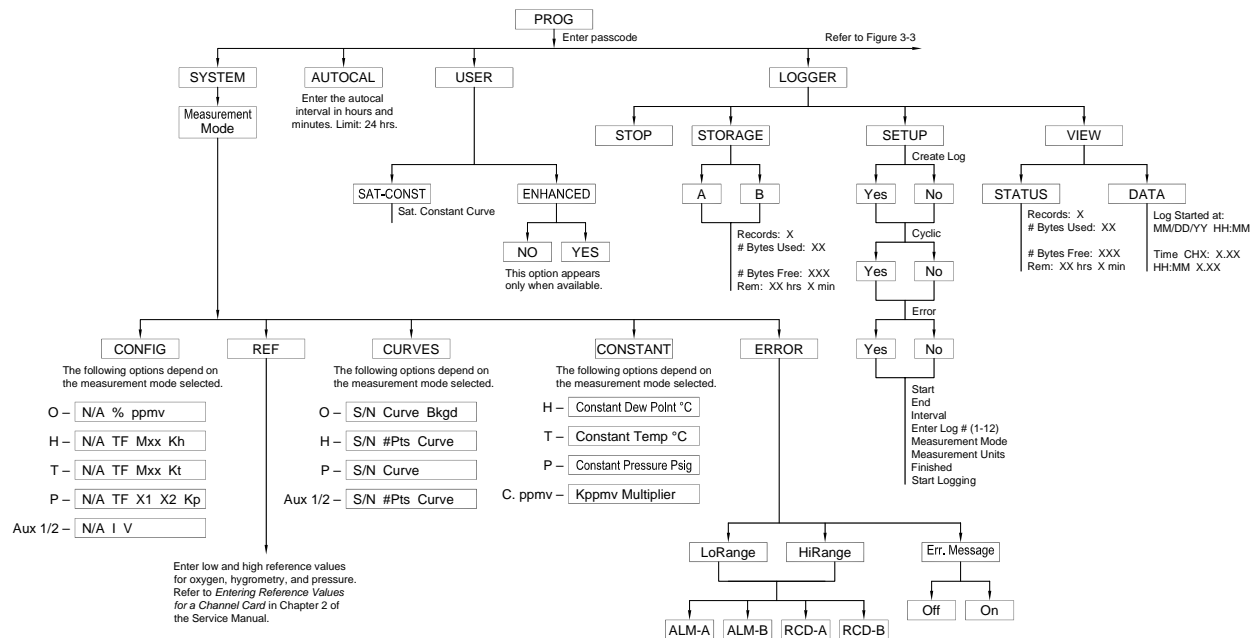
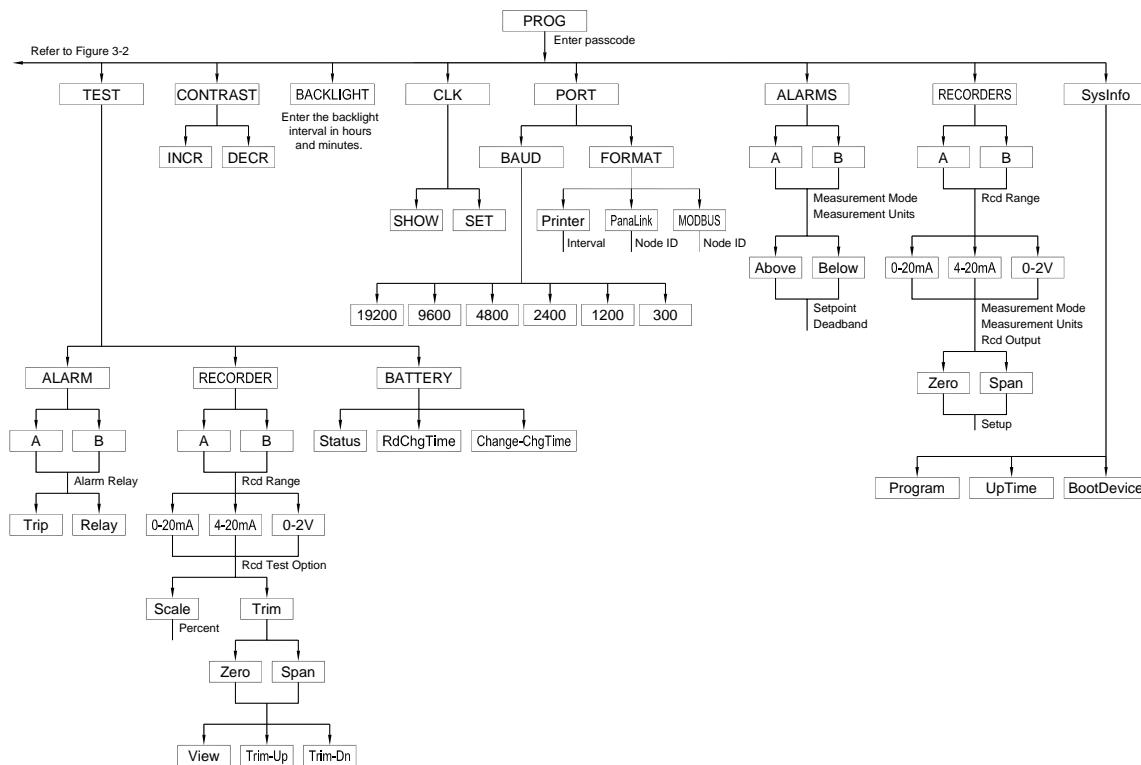

Figure 3-2: Program Menu Map (sht. 1 of 2)
Figure 3-3: Program Menu Map (sht. 2 of 2)
- Refer to another section and perform a different procedure. Refer to Figure 3-2 on page 3-48 and Figure 3-3 on page 3-49 to navigate through the user program.